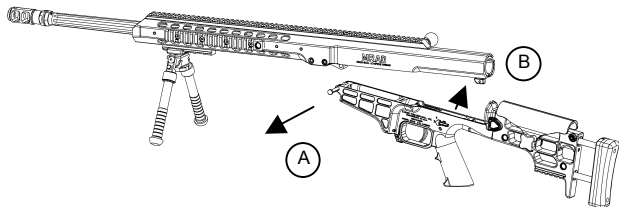

Figure 11.
5. Slide the assembly pin to the left to separate the receivers. The pin cannot be completely removed, DO NOT force it out. (*Figure 11.*)